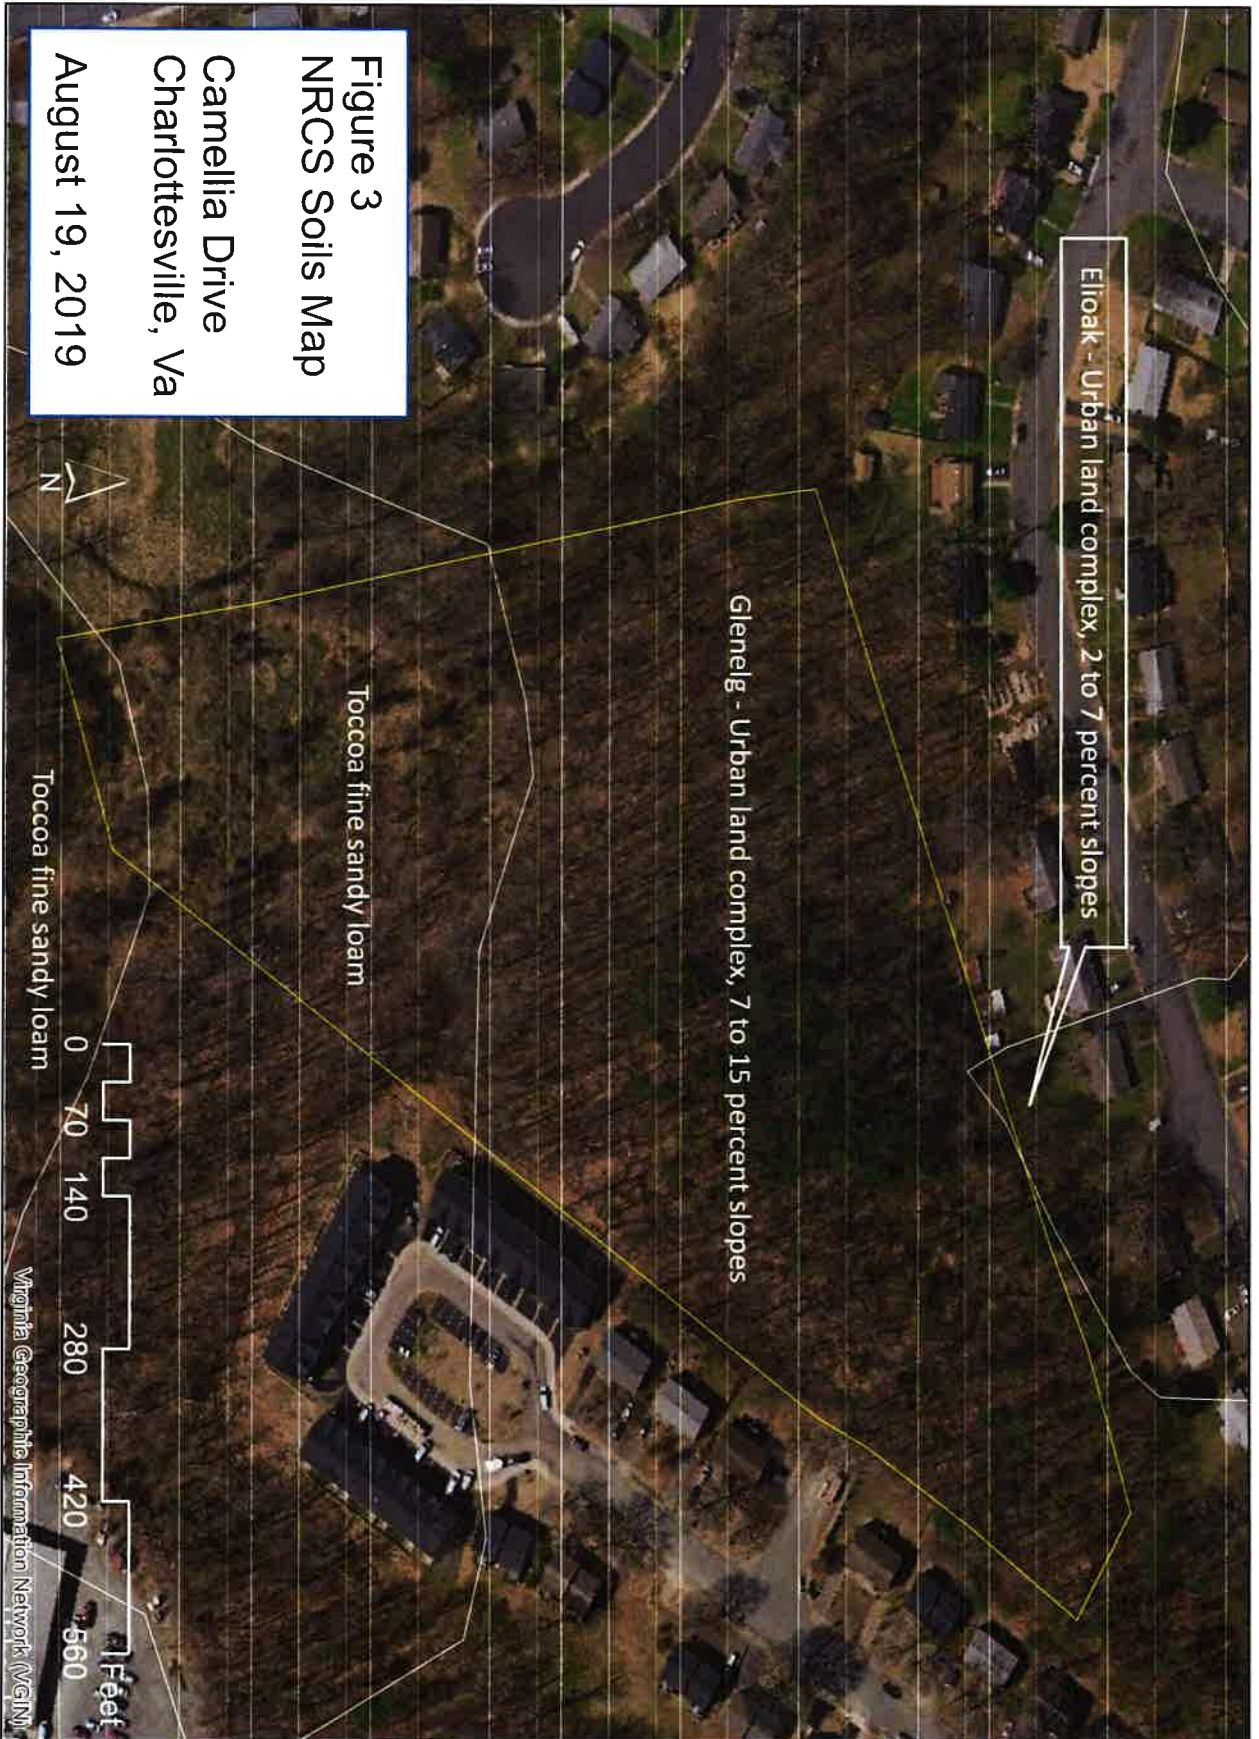

Figure 4- Palmer Hydrological Drought Index
- Figure 4. Palmer Hydrological Drought Index